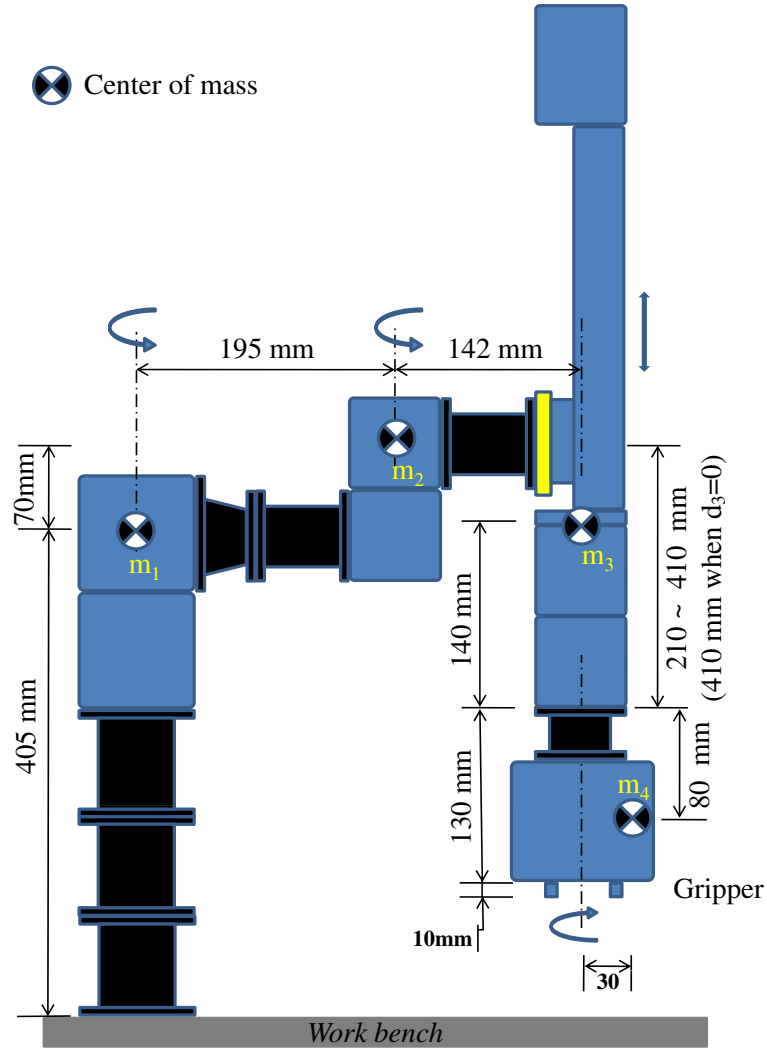

Figure 1: Schematic of SCARA type robot system assembled in 488 Lab.
In this project, you will simulate a 4-DOF SCARA type (RRPR) manipulator (SCARA Configuration is shown in Figure 8.5 of your text, and a schematic of the real robot is shown in Figure 1) and apply the subject matter of your lectures to the manipulator. This simple manipulator is complex enough to demonstrate the main principles of the course while (hopefully!) not bogging you down with too much complexity. Each part of the project builds upon the previous one so that at the end of the project, you have an entire library of manipulator software. An actual SCARA robot is also there in the lab, and you will get a chance to test some of your functions on the real robot. The project is to be done in groups, with each group consisting of **three** students. Please note that you are free to “adapt” the project, as long as these adaptations have been discussed with me and gotten approved.
2. The kinematic parameters are shown in Figure 1. Joint 1 has a joint limit of $\pm 150^\circ$, joint 2 has a joint limit of $\pm 100^\circ$, joint 3 can move between $[-200\text{mm}, -100\text{mm}]$ (so you don't have to worry about hitting the workbench), and joint 4 has a joint limit of $\pm 160^\circ$. In your simulator, you should assume that the robot has a gripper mounted at the end.
3. The dynamic parameters are as follows. Note that this applies to the simulator only, and not the real robot. m_1, m_2, m_3, m_4 are mass of the four links respectively; $m_1 = 1.7\text{kg}$, $m_2 = 1.0\text{kg}$, $m_3 = 1.7\text{kg}$, and $m_4 = 1.0\text{kg}$. For all four links, assume that the mass is all concentrated into a point mass, and the respective locations of centers of mass are shown in Figure 1. Assume some viscous friction at each joint.